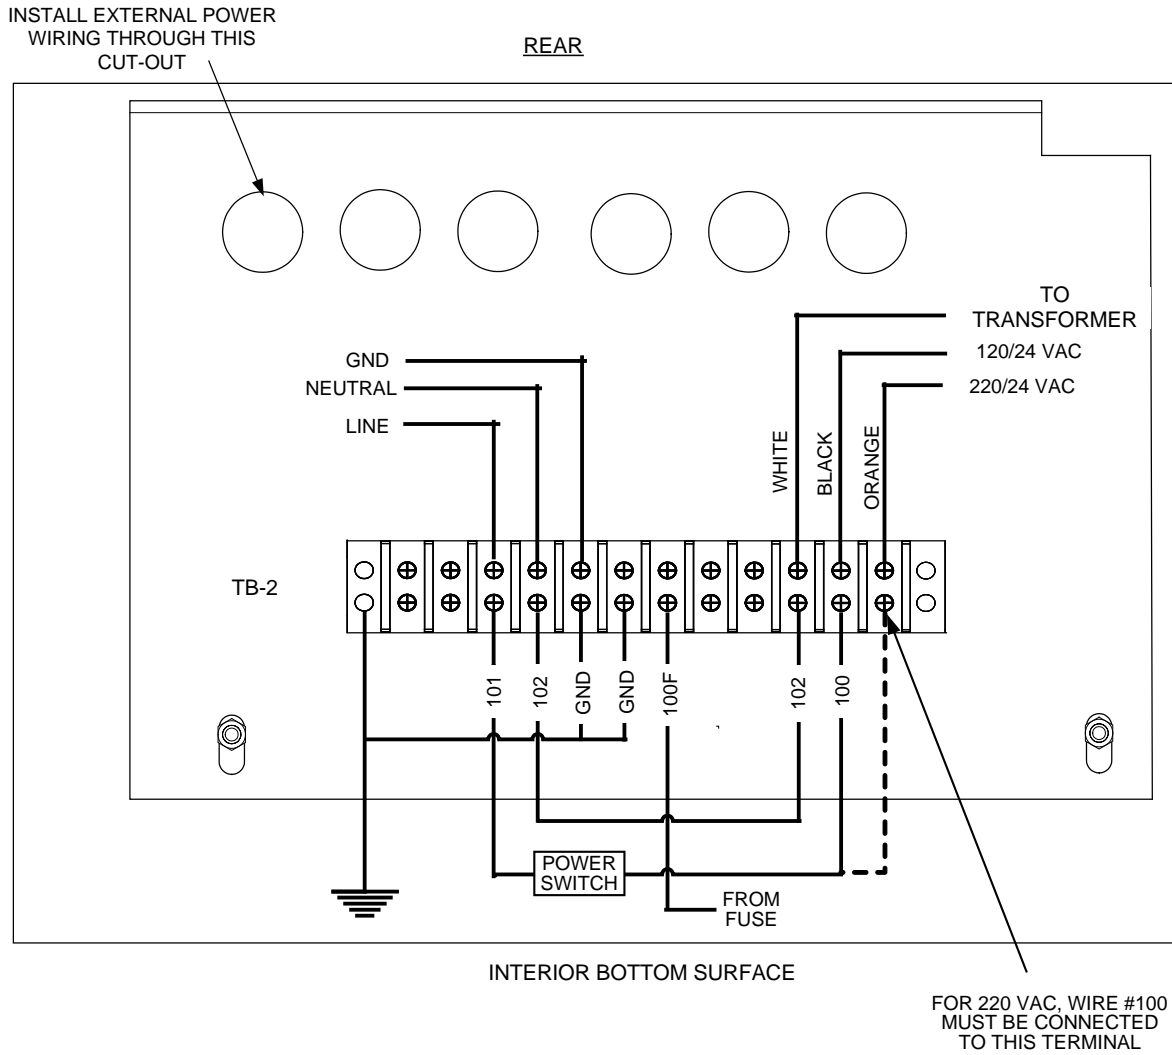

Figure 2-6. ECS/SP Control Box AC Power Connections
3. Swing down the recessed panel to access Terminal Block TB-2 on the bottom interior surface of the Control Box, shown in Figure 2-6.
5. Connect the LINE, NEUTRAL and GROUND leads to the TB-2 terminals shown in Figure 2-6.